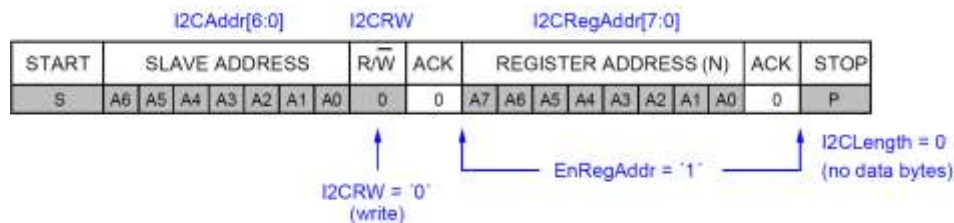

Figure 8: I2C Master Write Register Address Only
- Only the register address is written into the Slave device. Register I2CMasCtrl[I2CLength]=0 (Figure 8)